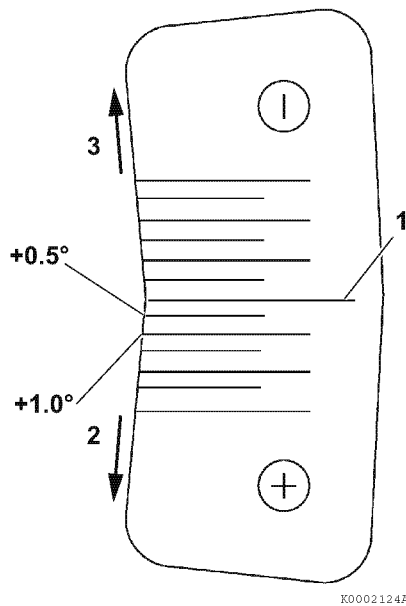

Figure 7-30
- If the difference between the timing index numbers is a positive number, the fuel injection pump mounting position must be advanced (2, **Figure 7-30**) (rotated away from the engine) as compared to the “standard mark” (1, **Figure 7-30**) by the calculated positive amount, adjust the fuel injection pump to the calculated value.
- If the difference between the timing index numbers is a negative number, the replacement injection pump must be retarded (3, **Figure 7-30**) (rotated toward the engine) by the calculated negative amount.
The above calculated difference indicates that the replacement fuel injection pump is to be installed at $+0.5^\circ$ (advanced) from the "Standard Mark" (1, **Figure 7-30**) on the timing sticker.